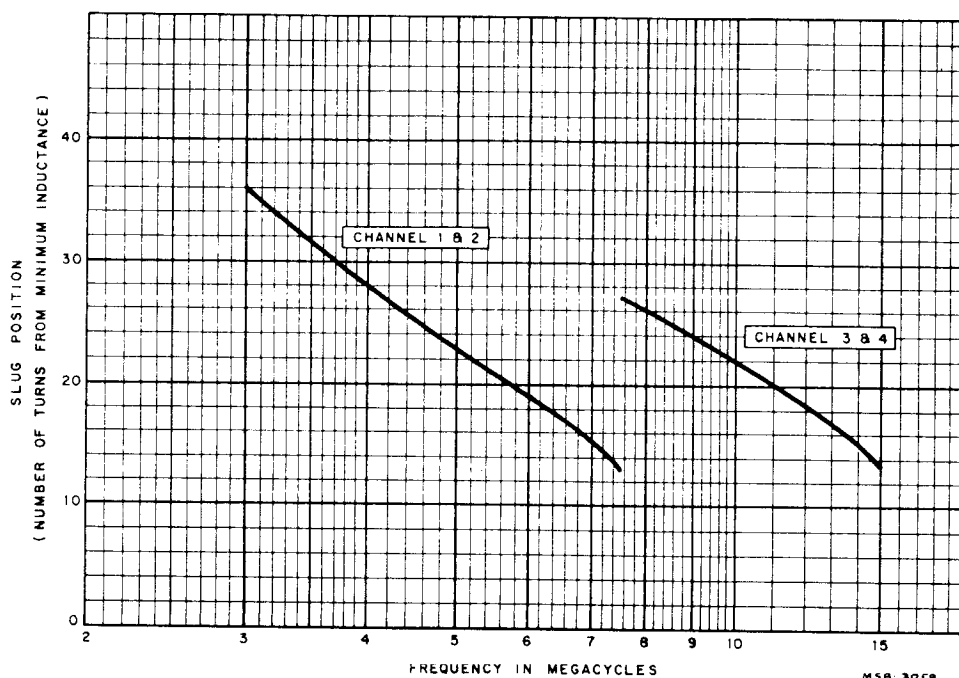

Fig. 43—Slug Positions of IPA Tuning Inductances
1. Place meter switch (C) in IPA TUNE position.
2. Pre-set the IPA tuning slugs as shown in figure 43. Adjust L215 (channel 1) for a peak reading on the meter. The peak reading should occur below 100. To decrease meter reading, turn the transmitter gain control counter-clockwise. For other channels, adjust L214 (channel 2), L213 (channel 3) and L212 (channel 4).